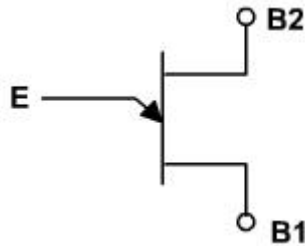
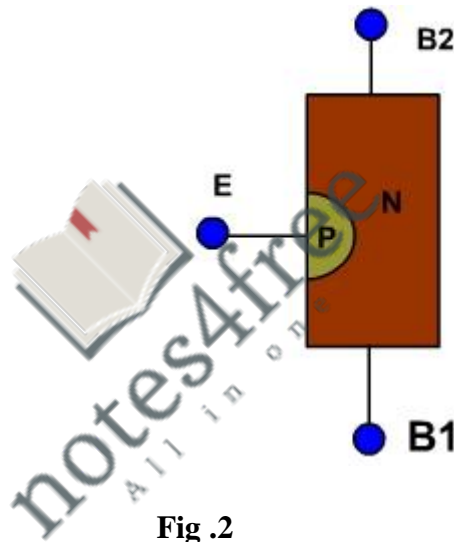

Fig. 1
Fig. 2
The symbol for UJT is shown in **fig. 1**. The UJT is having three terminals base1 (B1), base2 (B2) and emitter (E). The UJT is made up of an N-type silicon bar which acts as the base as shown in **fig. 2**. It is very lightly doped. A P-type impurity is introduced into the base, producing a single PN junction called emitter. The PN junction exhibits the properties of a conventional diode.